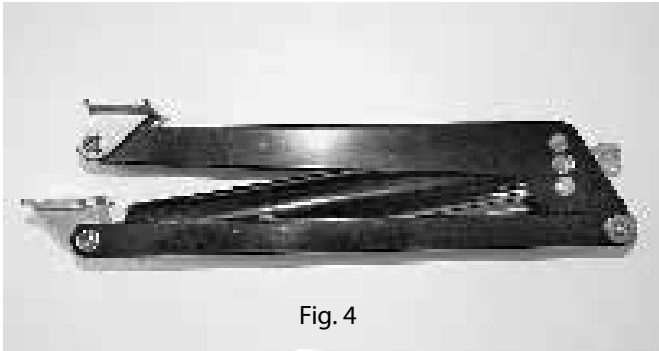

Fig. 4
- II inside the ventilationopening: see fig. 4+6